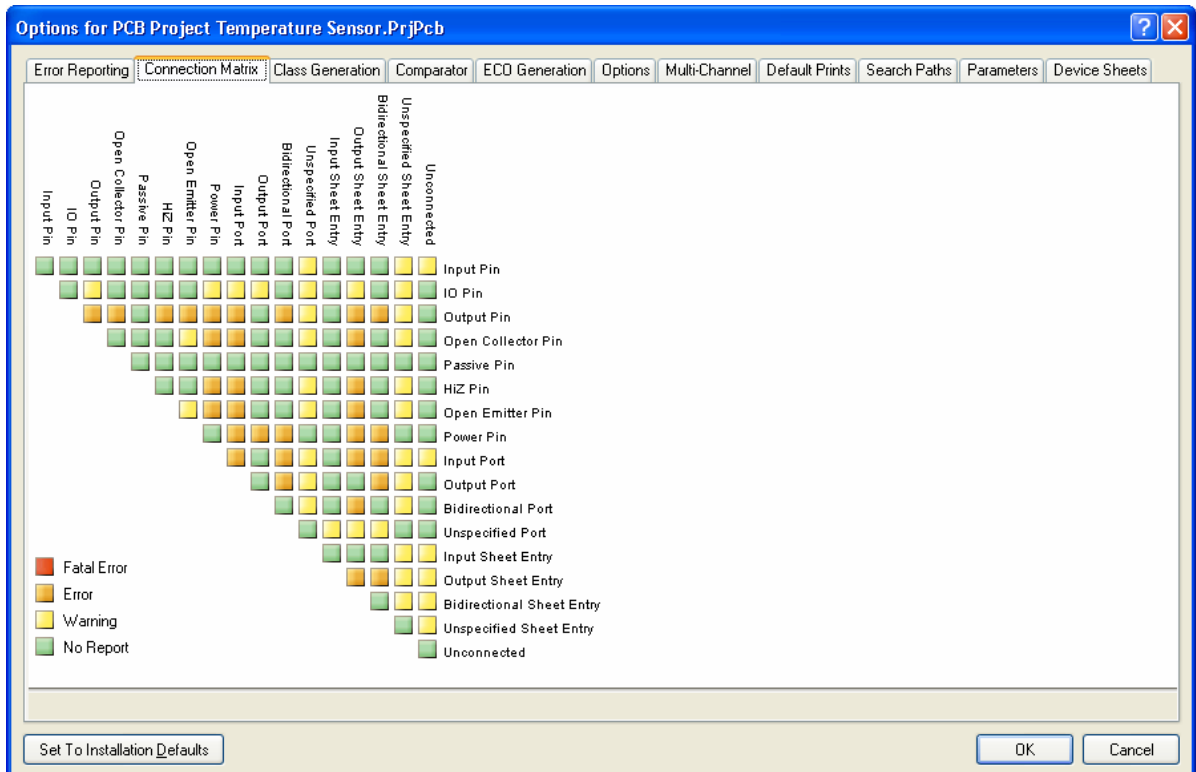

Figure 8. ERC Rule Matrix tab
- The **Connection Matrix** tab in the *Options for Project* dialog is shown in Figure 8. This matrix provides a mechanism to establish connectivity rules between component pins and net identifiers. It defines the logical or electrical conditions that are reported as warnings or errors.